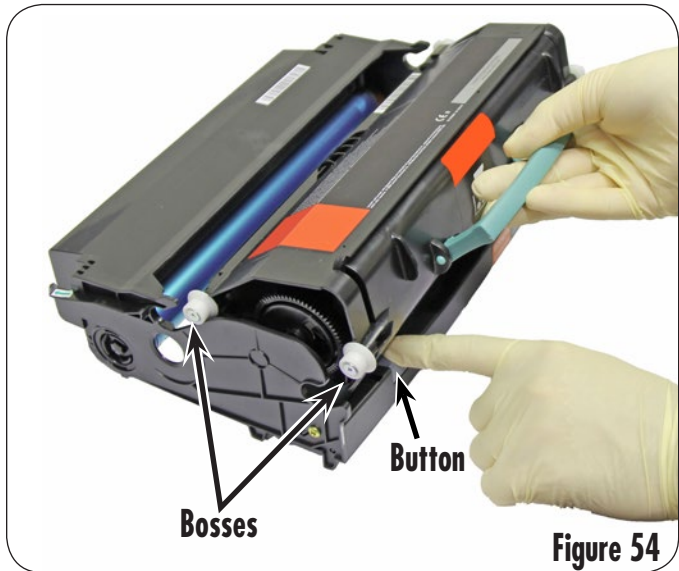

Figure 53
8. Without touching the drum's coated surface, place fingers on the gear and hub side of the drum and rotate at least three full rotations to lubricate the drum (Figure 53).